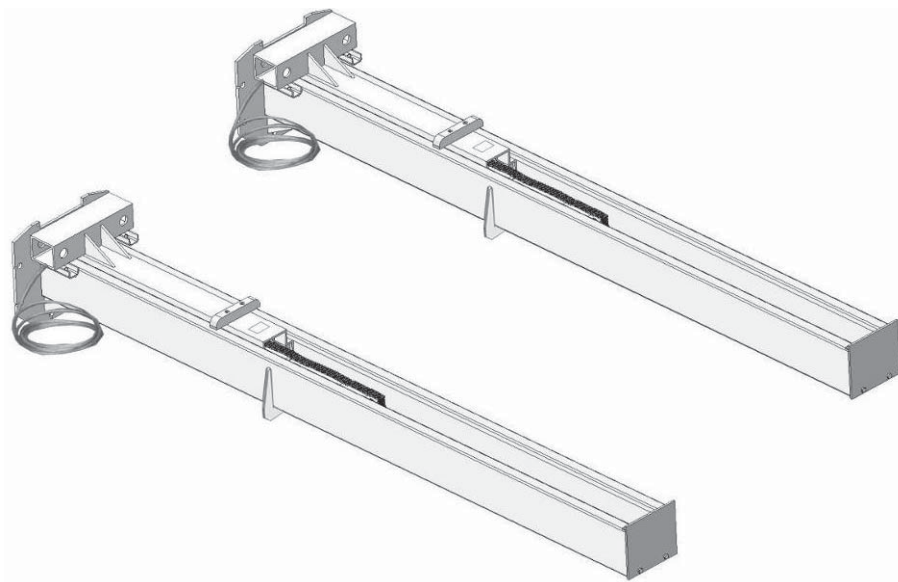

Fig. 13
2. Push the carriages to the bottom of the columns (See Fig. 13).